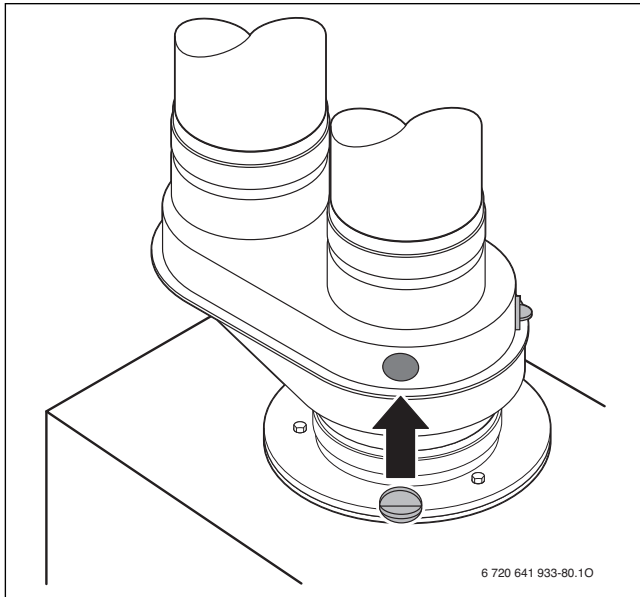

Fig. 81 Close flue gas test ports
- ▶ Remove flue gas probe and close the flue gas test port properly (→ Fig. 81).